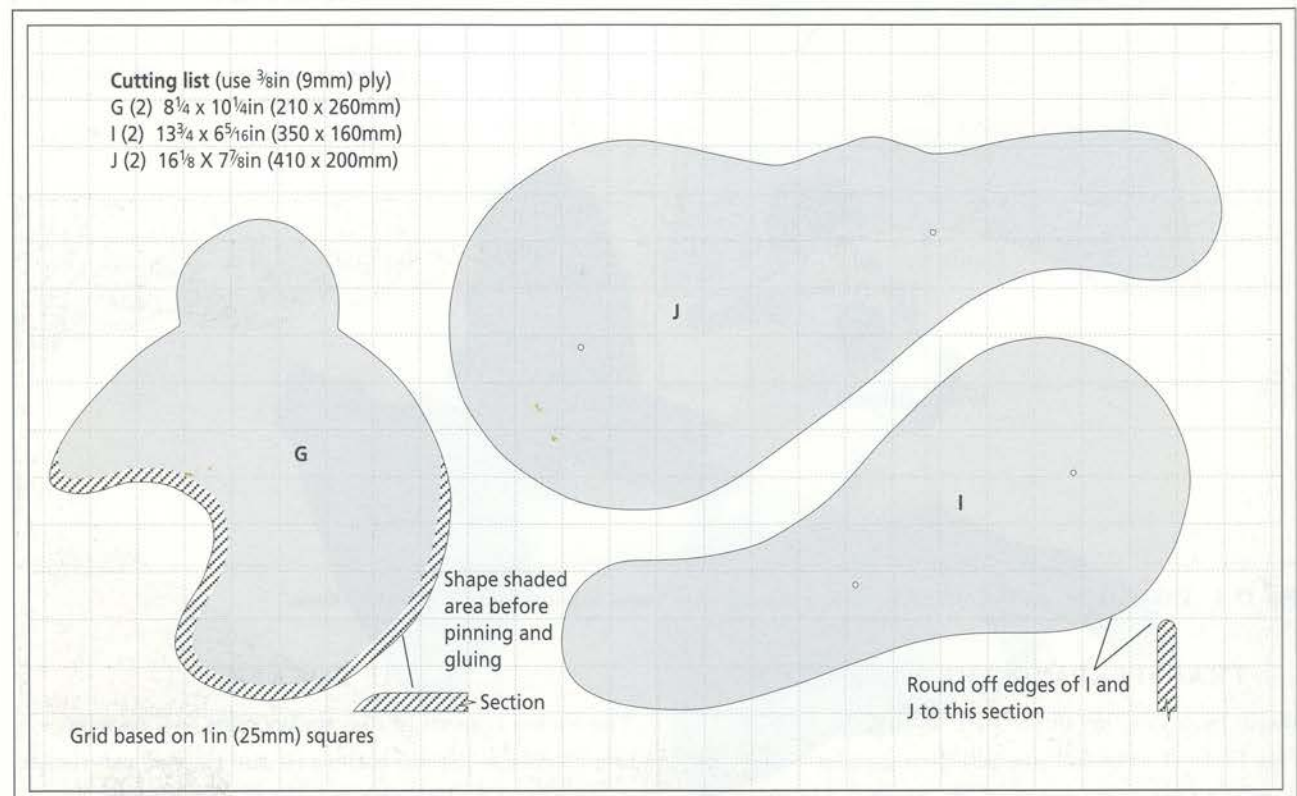

Fig 17.3 Parts G, I and J.
Saw the front (I) and rear (J) legs (see Fig 17.3) to shape and round the edges with sandpaper to remove sharp